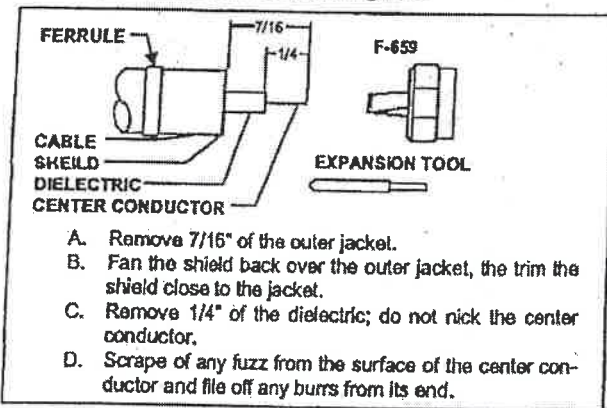

Figure 3 Preparation of Cable
- Prepare cable ends as shown in Figure 3.